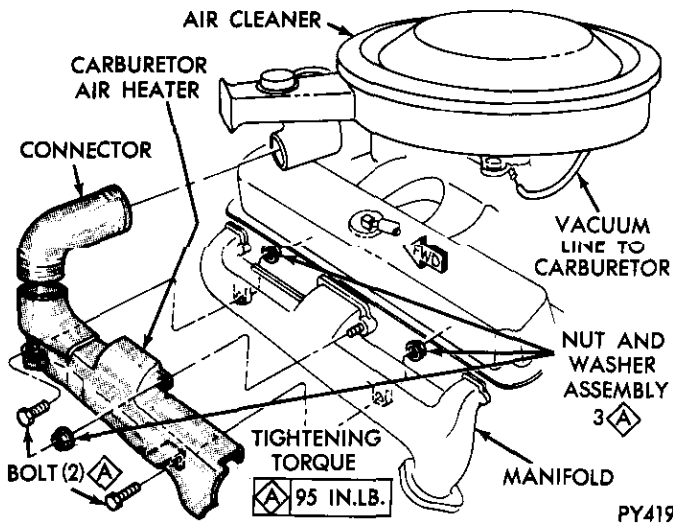

Fig. 7—Carburetor Air Heater, 318 Cubic Inch Engines
(1) Disconnect air cleaner vacuum line from carburetor and flexible connector between air cleaner and carburetor air heater.
(2) Disconnect breather cap to air cleaner line and remove air cleaner.
(3) Refer to figure 7, to remove carburetor air heater and attaching screws.
(1) Refer to figure 7, install carburetor air heater with attaching screws, bolts, nut and washer assemblies. Tighten to 95 inch-pounds.
(2) Install air cleaner and connect air cleaner to breather cap line.
(3) Install air cleaner to carburetor vacuum line, flexible connector between air cleaner and carburetor air heater.